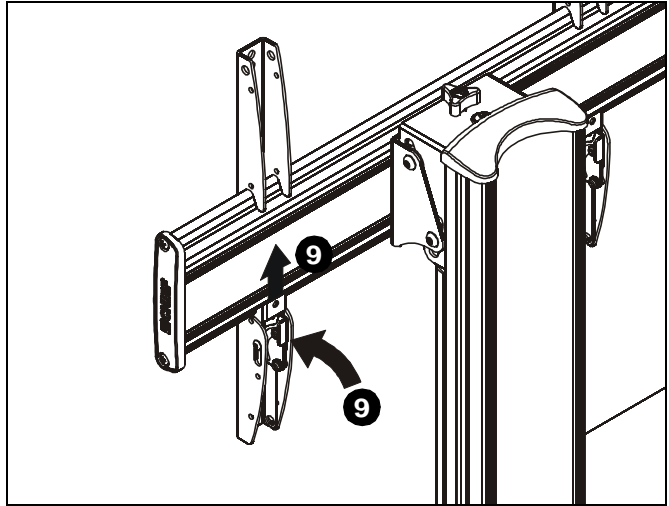

Figure 7
9. Move latches on interface uprights to the "closed" position to secure display to head assembly. (See Figure 7)